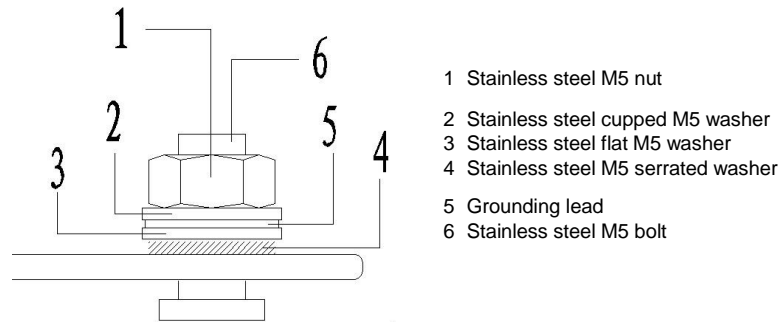

Figure-1 Grounding panel frame with stainless steel grounding & bonding equipment
- 4.3.3 Use a set of stainless steel grounding and bonding equipment including bolt/nut/cupped washer/flat washer/serrated washer to provide a reliable grounding connection to the module frame (refer to Figure-1). A flat washer is required between serrated washer and $\Phi 2.5\text{mm}$ grounding wire. A cupped washer is required between grounding wire and the nut (with torque less than $4\text{N}\cdot\text{m}$). Grounding wire should be directly connected with the screw.